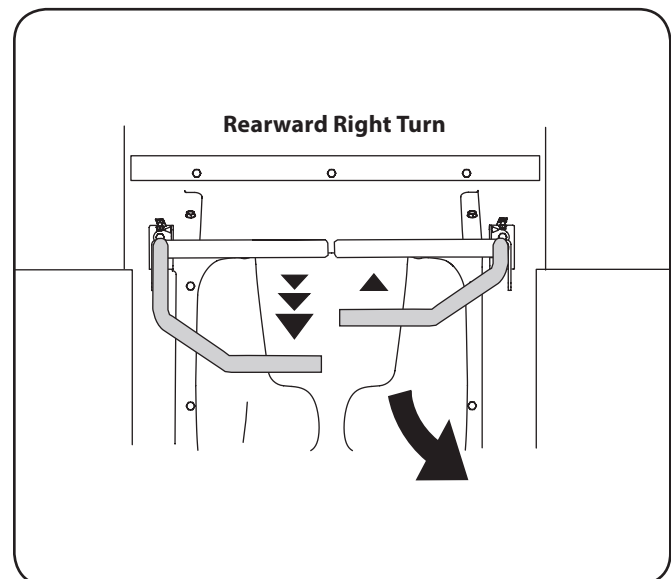

Figure 5-7
2. To turn to the right while traveling in reverse, move the right drive control lever forward of the left lever. See Figure 5-7.